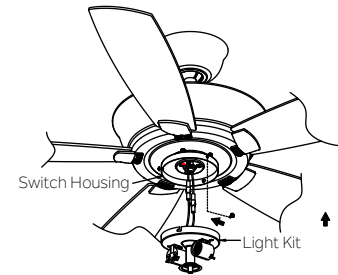

Fig. 23
**Step 3.** Tuck the connections neatly into the light kit. Align the slot holes on the light kit and switch housing. Rotate the light kit until it locks in place at the narrow end of the key holes. Securely by tightening the 2 screws previously loosened and the one previously removed. (Fig. 23)